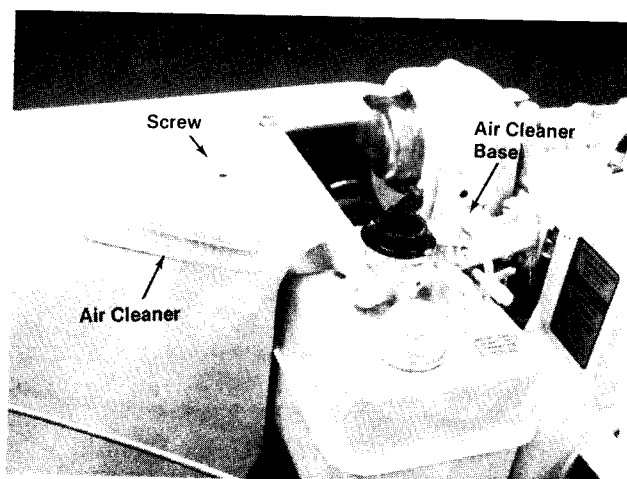

FIGURE 44.
To remove air cleaner: See figures 44 and 45.
- H. Reassemble (See figure 44.) by inserting element into body and snapping cover into place, fasten to carburetor with screw.